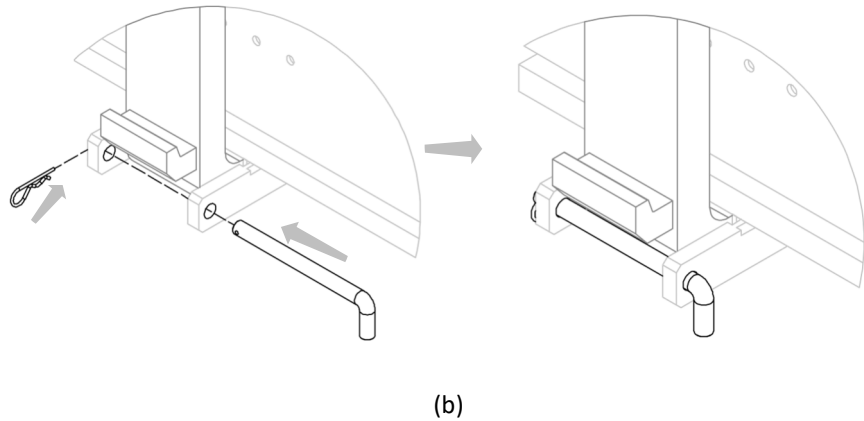

Figure 8
6. Close the fork stops (see *Figure 8*).